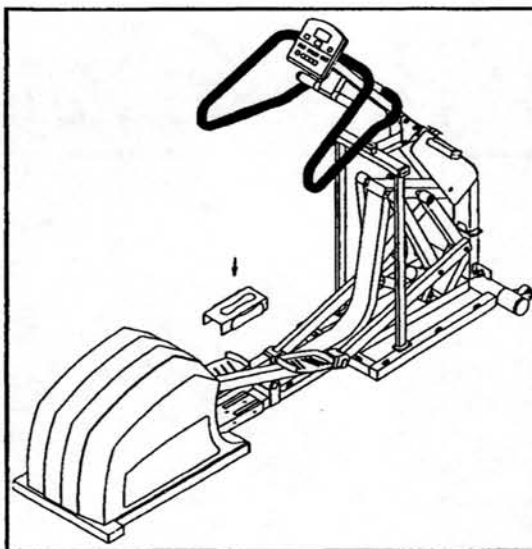

Fig.2-7
2. Place the FRAME JOINT COVER (see Fig.2-7).